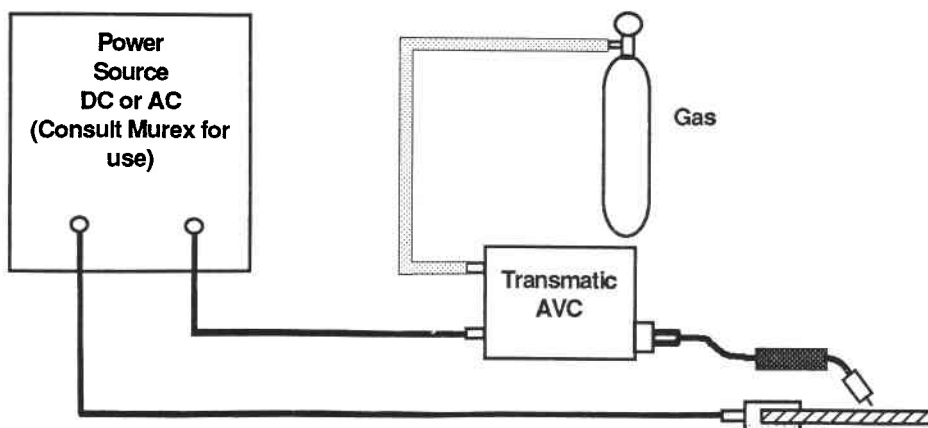

Fig. 3. - Interconnections
2. Interconnection- See Fig. 3.